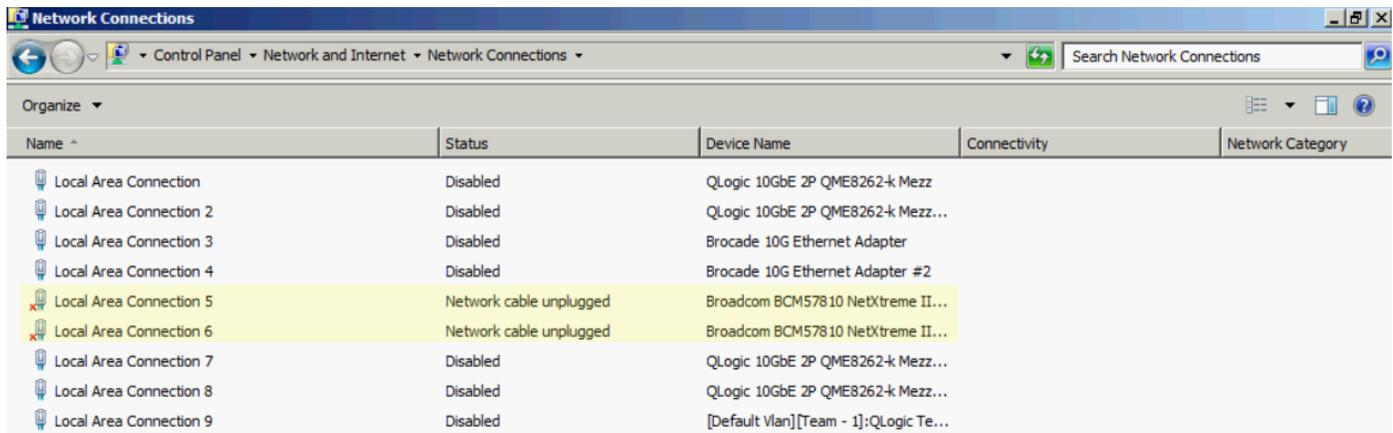

Figure 8 'Network Connections' view in Windows Server 2008 R2 Enterprise
3. Go to **Control Panel > Network and Internet > Network and Sharing Center > Change adapter settings**, The Broadcom Network Adapters are displayed. The two Broadcom 57810 CNA ports being utilized in this setup are highlighted (Figure 8).